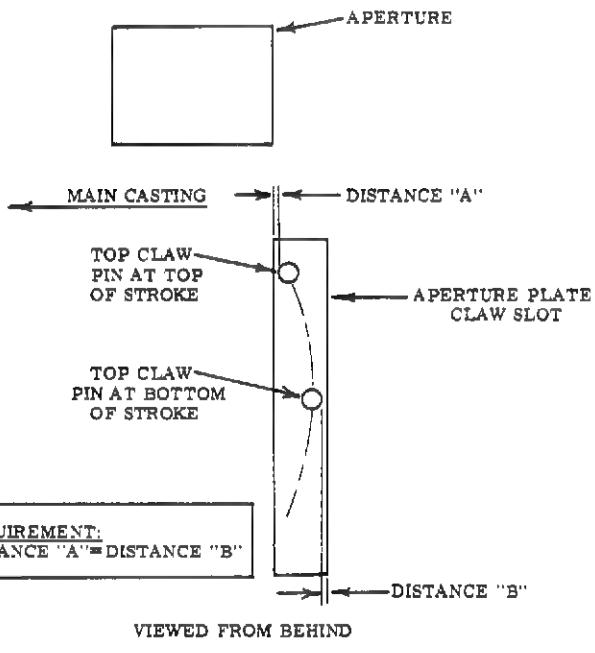

Figure 3-22. SIDE CLEARANCE
1. Thread an old film in the projector (do not use a good film for this adjustment) and adjust the Framing Knob to eliminate any frame lines at the top or bottom of the projected image with the projector running in FORWARD. If excessive noise results when the Framing Knob is moved, stop the projector and check the location of the Claw Arm Pins in the sprocket holes of the film. When Framing is correct, the Top Claw Arm Pin should be the same distance from the inside edge of the sprocket hole at the top of its stroke as it is from the outside edge of the sprocket hole at the bottom of its stroke. (Figure 3-22). Loosen Screw (14) and adjust the Bushing (8) (Figure 3-21) so these two distances are equal. Remove the film from the projector after proper Framing and Side Clearance are established.
sprocket hole at the top of its stroke as it is from the outside edge of the gauge sprocket hole at the bottom of its stroke. (Figure 3-22)